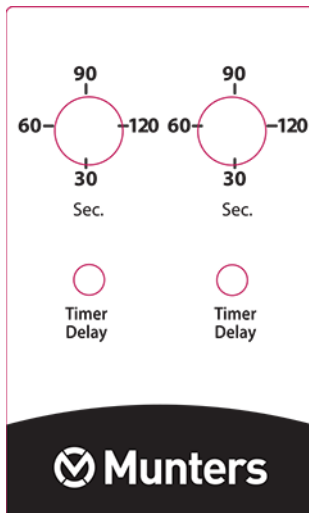

Figure 3: Timer Delay Unit
3. Adjust the timer delay potentiometers as required (Figure 3).